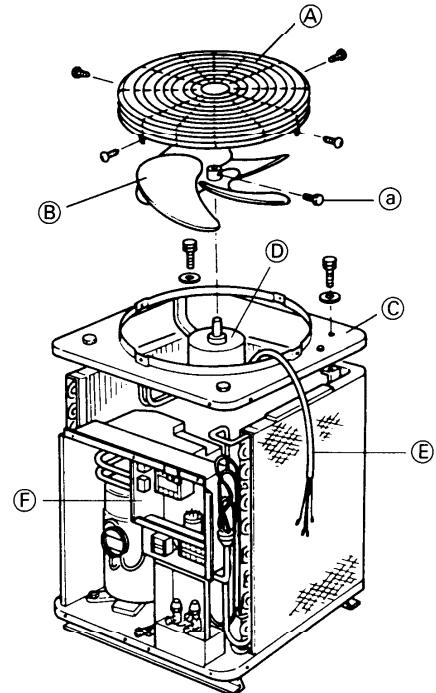

Fig. 7
- 2) Disconnect the fan motor wires **(E)** from the electrical component box **(F)** and then, remove the top cover **(C)** with fan motor Fig. 7